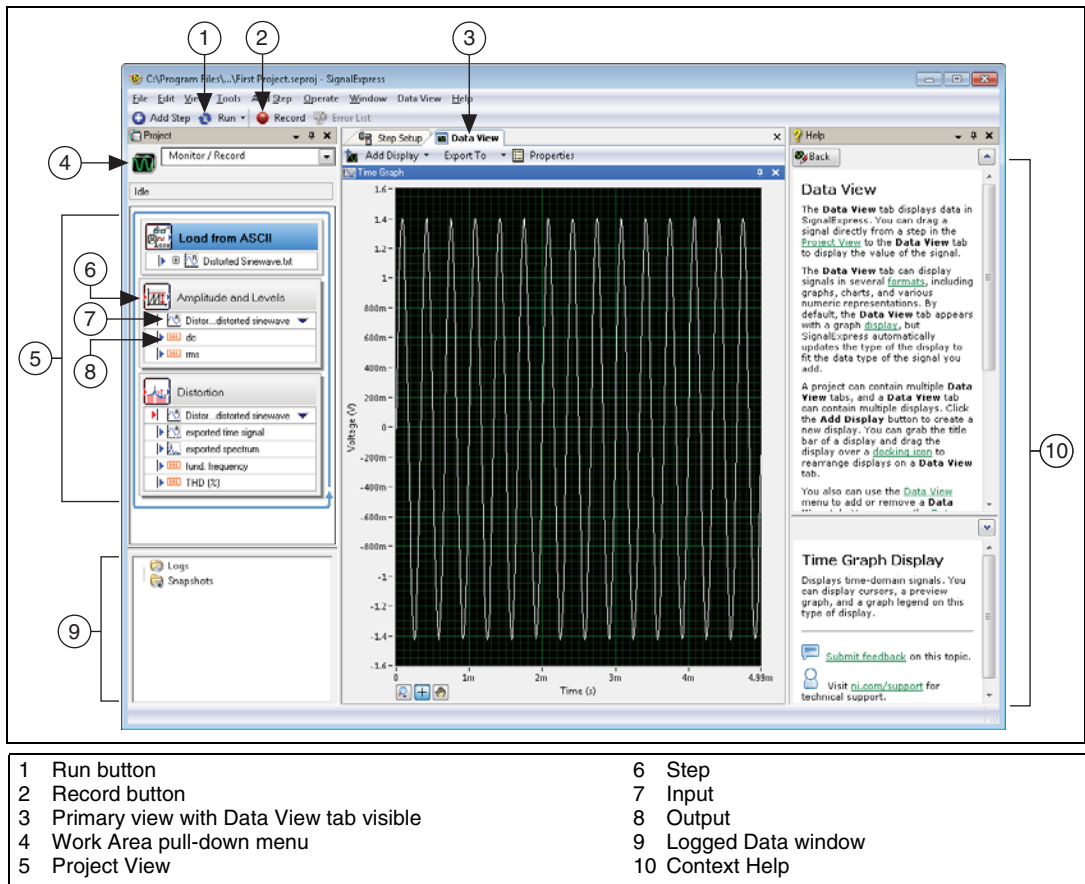

Figure 2-1. First Project.seproj
4. Examine the window that appears, as shown in Figure 2-1, to learn about different components of SignalExpress.